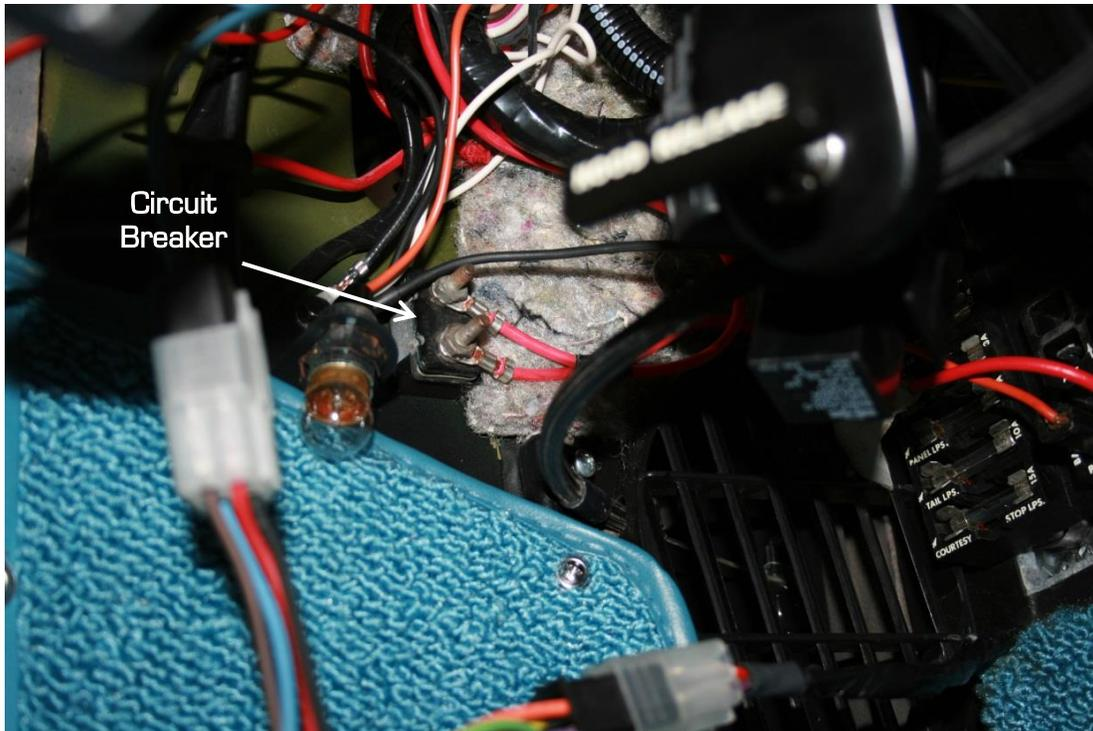

Figure 2
1. The new headlight kit will be connected to the existing 30 Amp circuit breaker for the original electric headlight door system that is located under the dash in the driver's side A-pillar/ kick panel area as shown in Figure 2. This circuit breaker will need to be located and the original headlight door system power wire will need to be disconnected leaving the battery feed connected to the circuit breaker. There are several circuit breakers in this area that look the same so you will need to disconnect the circuit to determine which one is the correct circuit breaker. Disconnect the battery and look at the circuit breakers under the dash to try to determine from the wire routing which one is connected to the headlight door system. Disconnect one of the wires from the circuit breaker and wrap the exposed terminal with electrical tape to keep it from accidentally shorting out to a ground source. Make sure that the poles on the circuit breaker cannot make a ground connection as well. Reconnect the battery and see if the original headlight door motors still operate. If they don't, proceed to step two. If they do, disconnect the battery and reconnect the removed terminal. Repeat this process on another circuit breaker until the correct circuit breaker is identified.